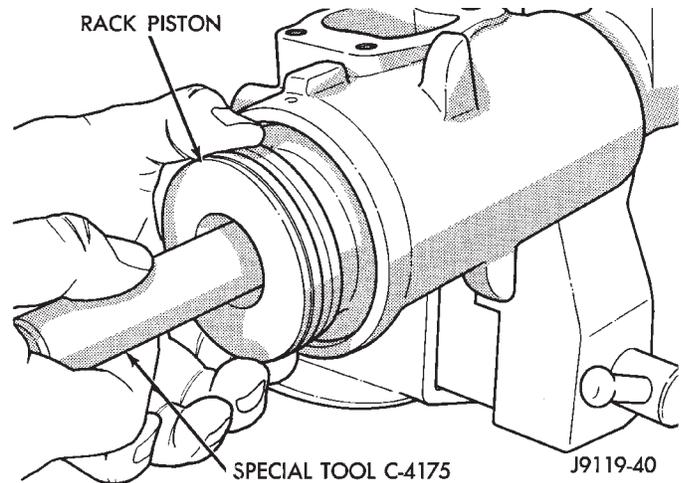
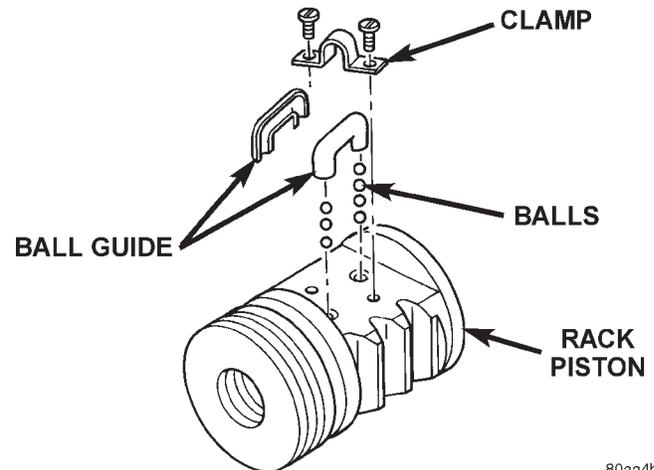

Fig. 20 Rack Piston with Arbor
Fig. 21 Rack Piston
- (4) Turn stub shaft **COUNTERCLOCKWISE** until the rack piston begins to come out of the housing.
- (5) Insert Arbor C-4175 into bore of rack piston (Fig. 20) and hold tool tightly against worm shaft.
- (6) Turn the stub shaft with a 12 point socket **COUNTERCLOCKWISE**, this will force the rack piston onto the tool and hold the rack piston balls in place.
- (7) Remove the rack piston and tool together from housing.
- (8) Remove tool from rack piston.
- (9) Remove rack piston balls.
- (10) Remove clamp bolts, clamp and ball guide (Fig. 21).